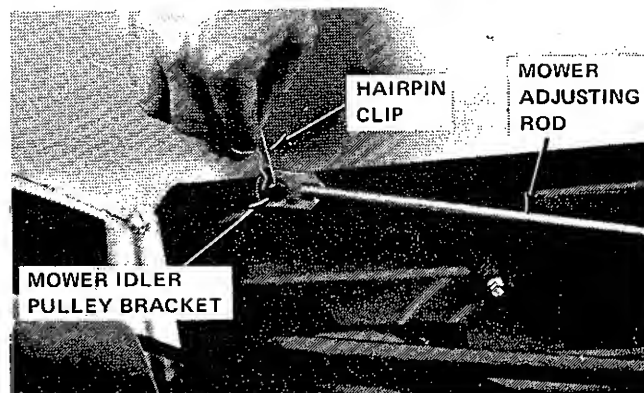

Figure 6-6. Mower Adjusting Rod Attachment
2. Remove hairpin clip (Figure 6-6) from mower idler pulley bracket and remove adjusting rod from bracket.
3. Secure adjusting rod to mower idler pulley bracket with hairpin clip (Figure 6-6). Engage mower suspension hook.